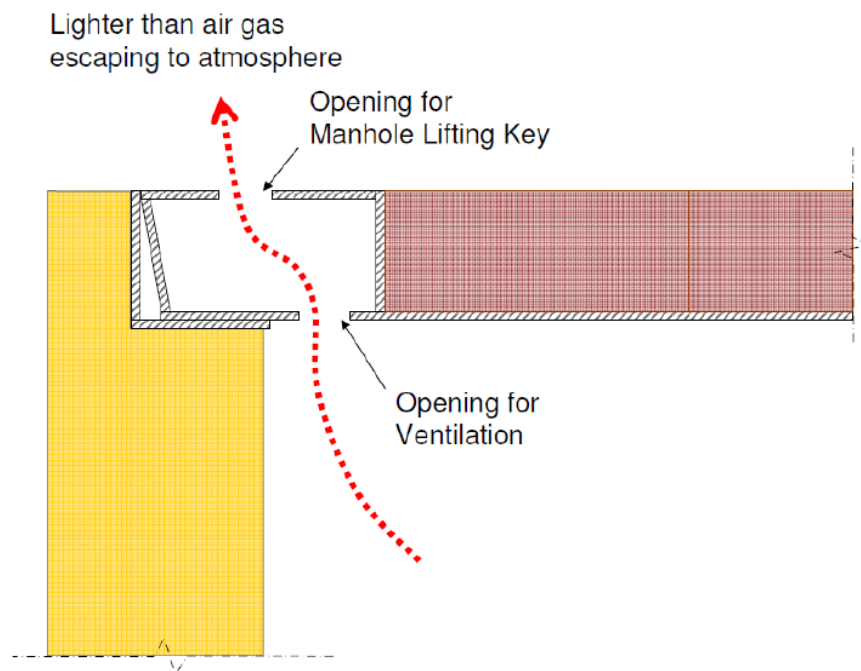

Figure 5: Modification of Existing Manhole Covers – Option (2)
Option (2) is illustrated in Figure 5. It is similar to the newly designed manhole covers and is applicable to both recessed covers and concrete infill covers. If the keyhole compartment is large enough, a hole in the range of 15 mm to 20 mm in diameter or equivalent area may be drilled directly through the keyhole compartment to the manhole chamber.